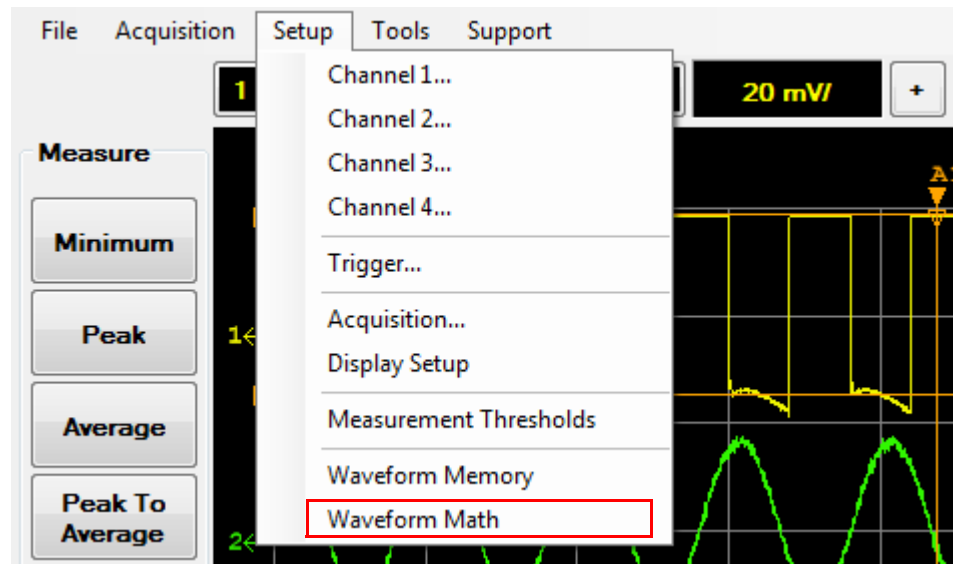

Figure 2-50 Waveform Math selection in the Setup menu
- 1 Select **Setup > Waveform Math** on the toolbar as shown in Figure 2-50.